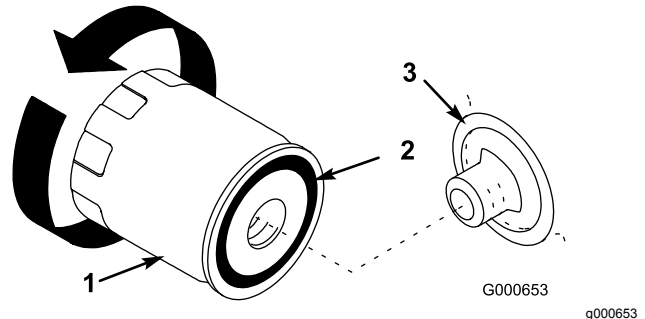

Figure 31
8. Remove the old filter and wipe the filter adapter (Figure 31) gasket surface.
11. Apply a thin coat of new oil to the rubber gasket on the replacement filter (Figure 31).
12. Install the replacement oil filter to the filter adapter. Turn the oil filter clockwise until the rubber gasket contacts the filter adapter, then tighten the filter an additional 1/2 turn (Figure 31).